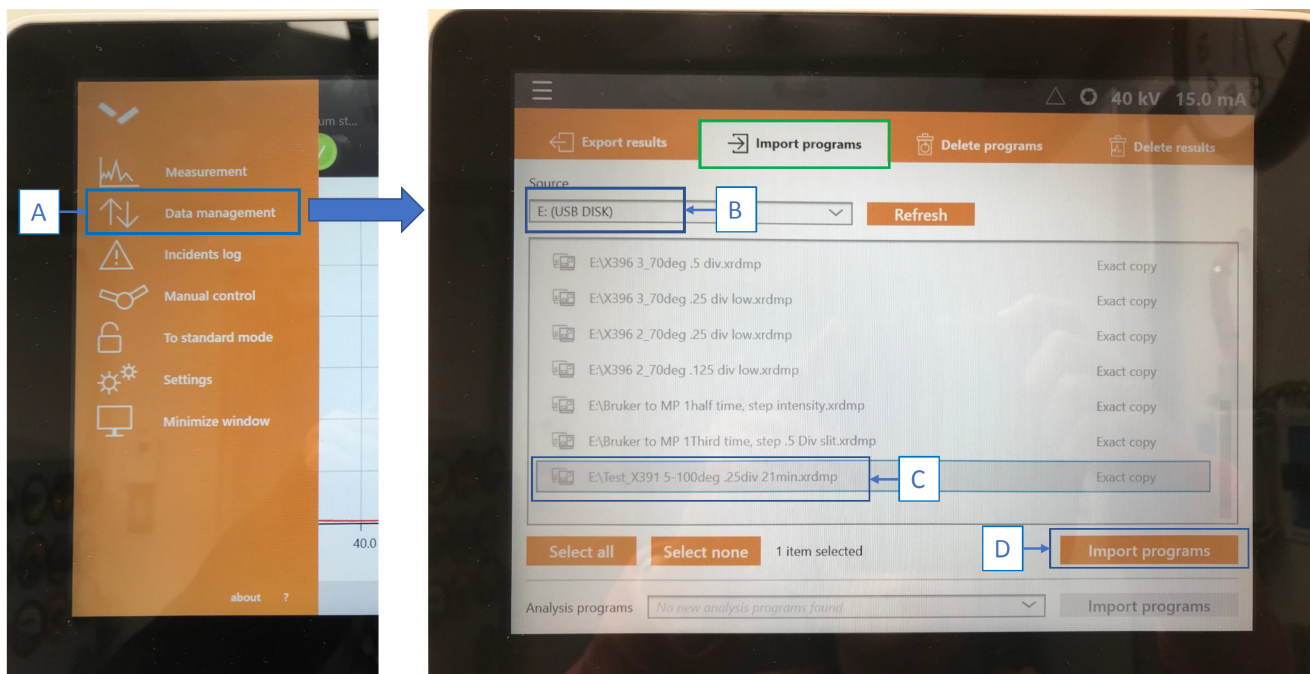

Figure 4. Importing a program from a USB drive to the Aeris XRD.
4. Click on Menu again and select '**Data Management**' (Figure 4, arrow A).
5. Source should auto populate as the USB drive (Figure 4, arrow B). Select the measurement program (arrow C), and then click '**Import Programs**' (arrow D)